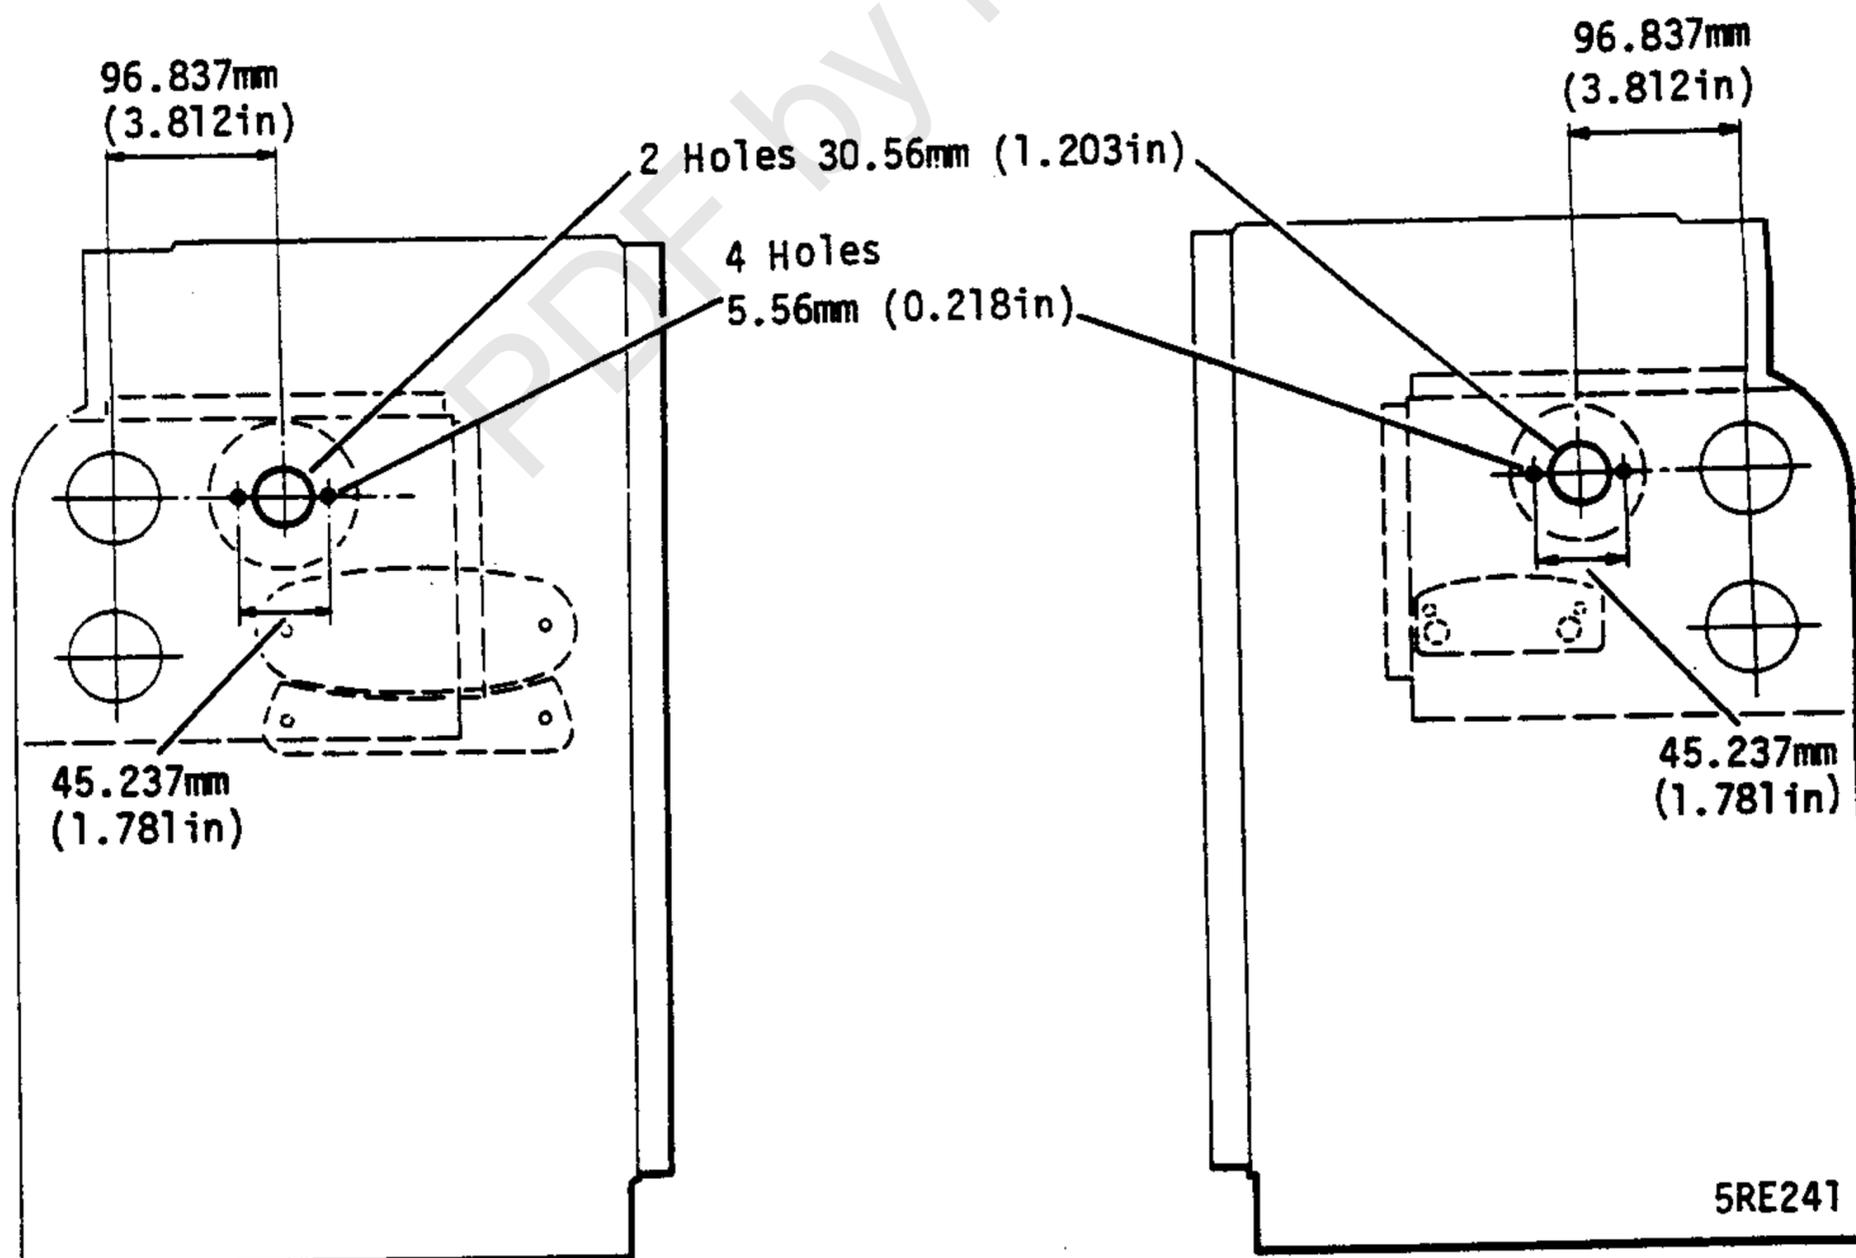

FIG.1
8. From the centre line of the rear indicator lamps and 96.837 mm (3.812") towards the centre of the vehicle on a horizontal plate, mark the body. Using this point as a centre, drill and open out to 30.56 mm (1.203") diameter to accept the reverse lamps. See Fig.1.